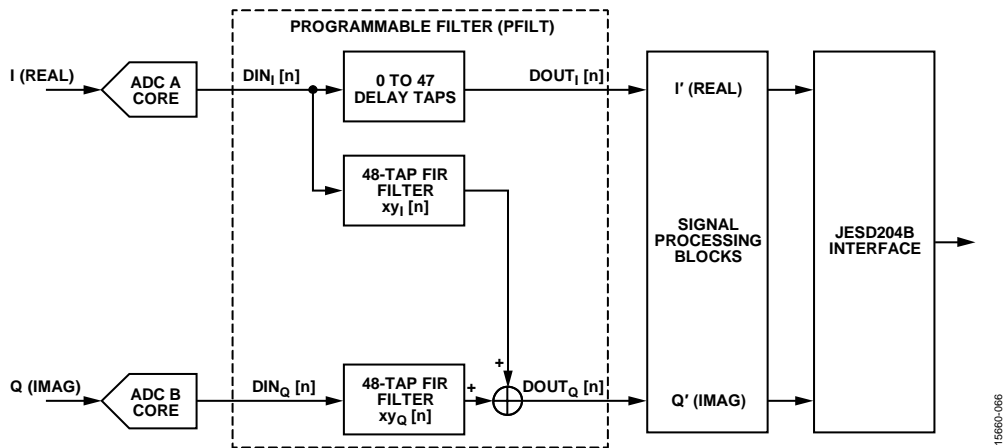

Figure 95. 48-Tap Half Complex Filter Configuration
- Half complex filter using two real 48-tap filters for the I/Q channels (see Figure 95)